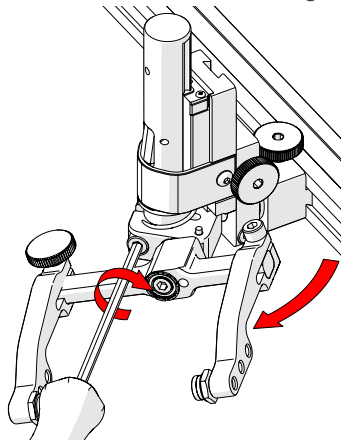

Fig. 132 - Rotate and tighten
3. Tighten the transverse adjustment screw (*Fig. 132*).